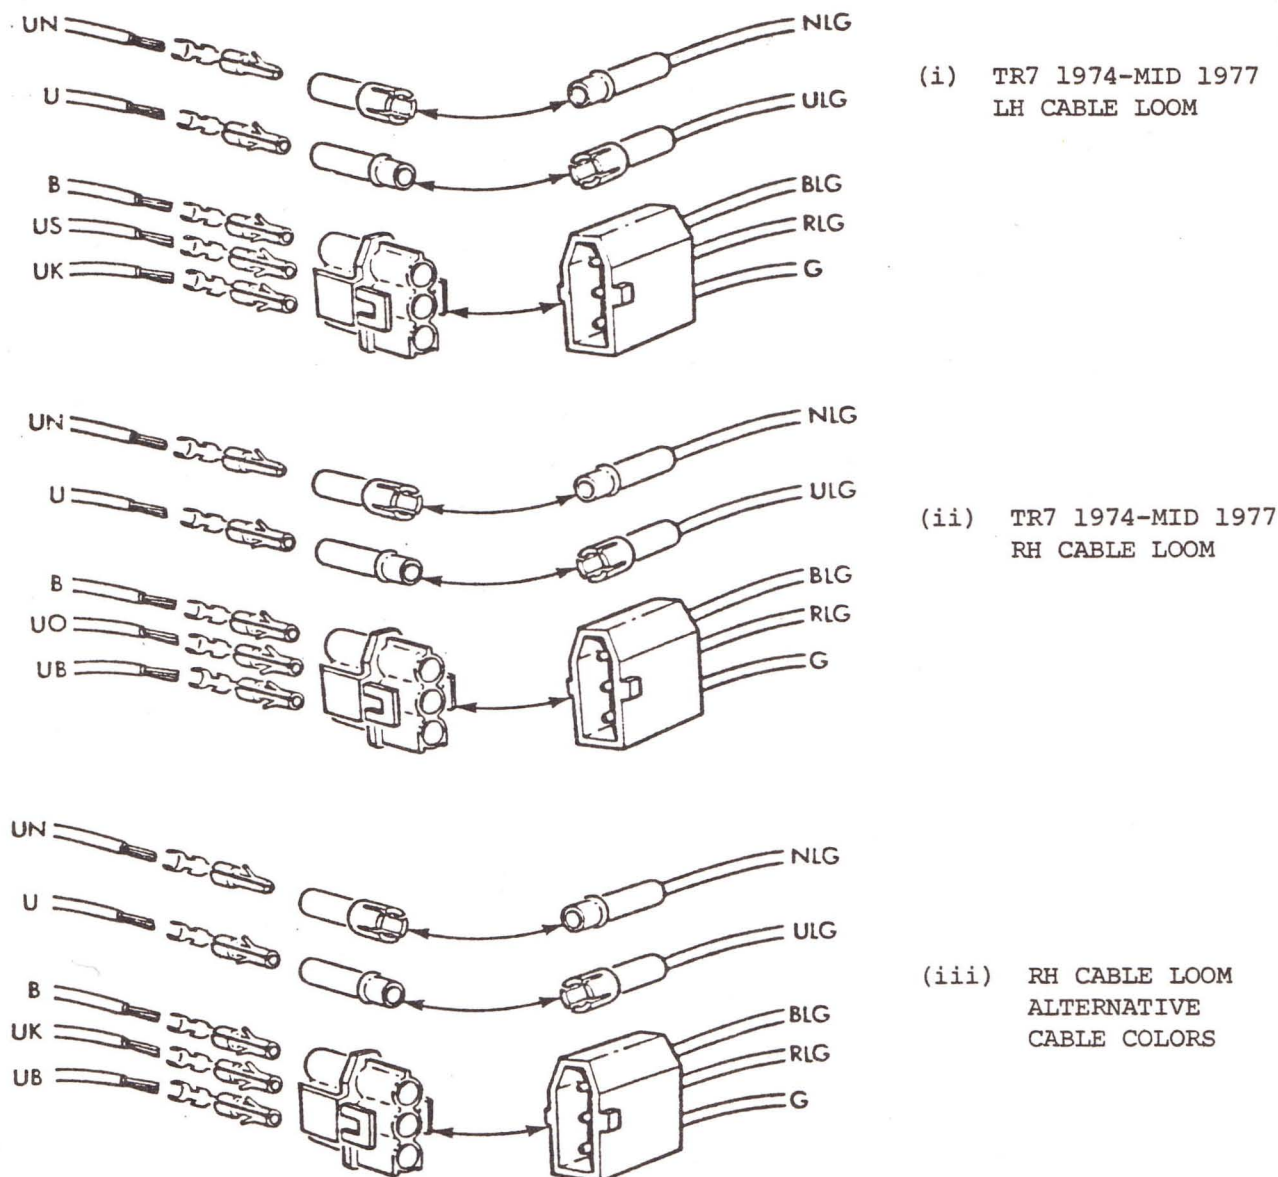

FIG. 2 ALTERNATIVE WIRING CONNECTIONS. CABLE COLOR CODE
3. Connect the cables to the round pin/sockets according to the existing cable arrangement (see Fig. 2). Ensure good soldered connections are made.